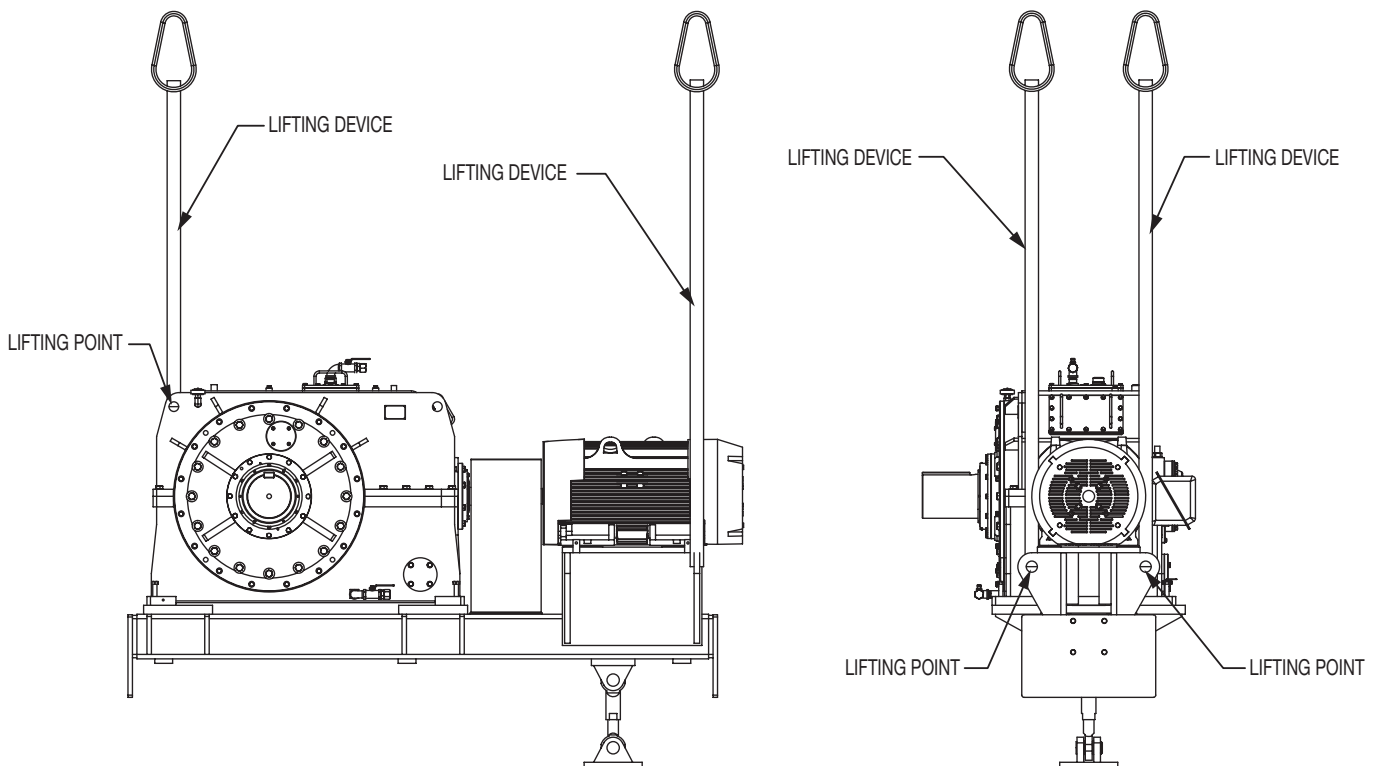

Figure 3 - MagnaGear Lifting Points
- Parallel or offset alignment is achieved by adding shims under the reducer and/or the drive base by moving the reducer and/or the drive base laterally as needed. A dial indicator gauge should be attached to the MagnaGear output coupling hub (low speed) and it should be positioned to contact the outside diameter of the pulley shaft or the outside diameter of the pulley coupling hub (Fig. 3). While slowly rotating the reducer shaft, the amount of eccentricity can be determined